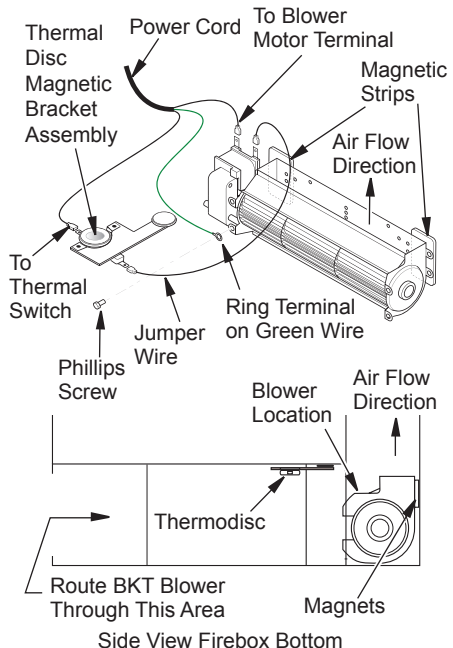

Figure 29 - Blower Model BKT
1. Attach green ground wire from power cord to blower housing using screw provided (see Figure 29) Tighten screws securely with a Phillips screwdriver.
3. Place the blower against the lower rear wall of the firebox outer wrapper with the exhaust port directed upward. Attach Thermal disc magnetic bracket to the bottom of the firebox sub-floor. The thermo-disc must be oriented near the fireplace bottom as shown in Figure 6, in order to sense temperature and properly operate. The blower will be held in position against the back wall by the magnets incorporated onto the blower housing (see Figure 29).